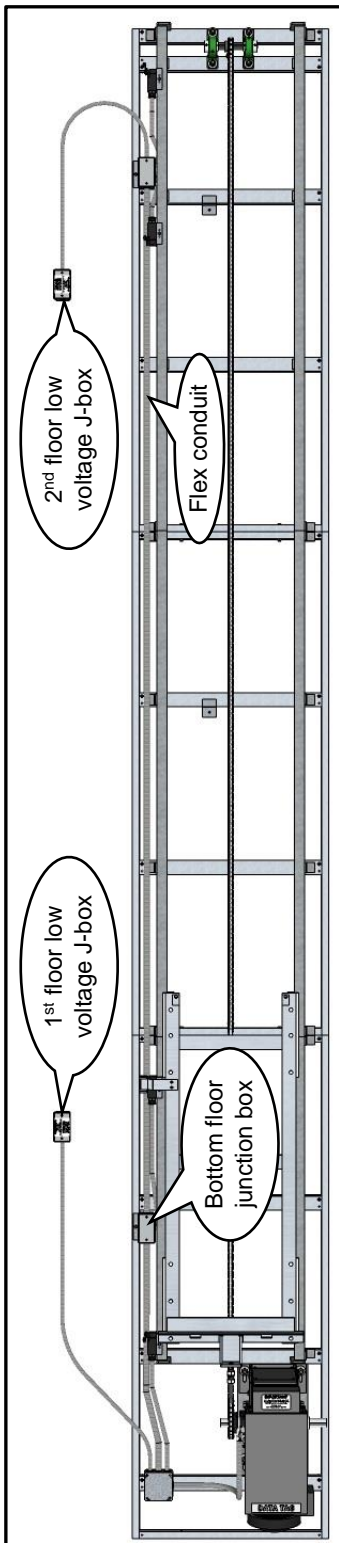

Figure 19
- 1** Lower flex conduit from top floor and connect to junction box at bottom floor. Mount low voltage J-boxes in shaft near push button locations and secure conduit to shaft wall maintaining running clearance. **(see Figures 19 & 20)**